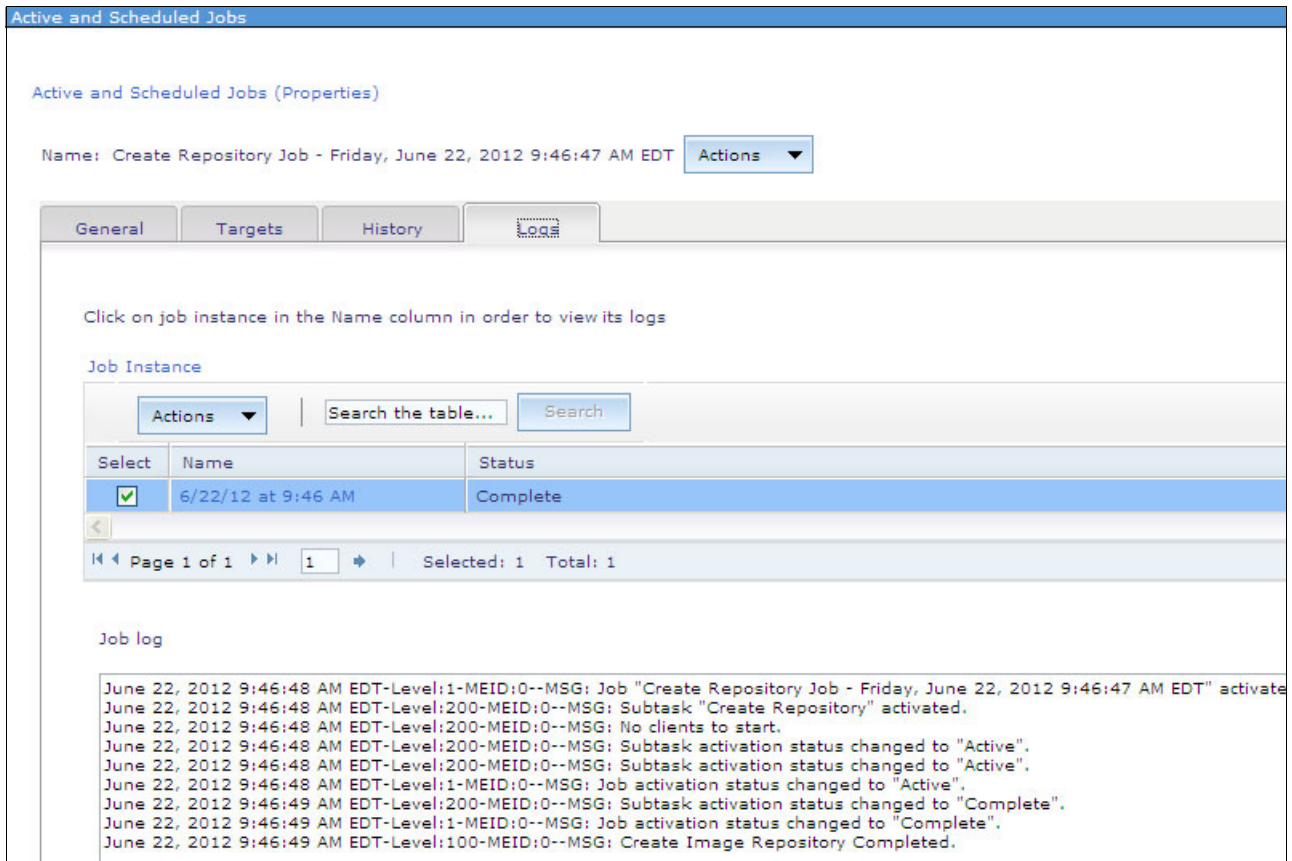

Figure 10-99 Check the log
6. Check the log as shown in Figure 10-99.